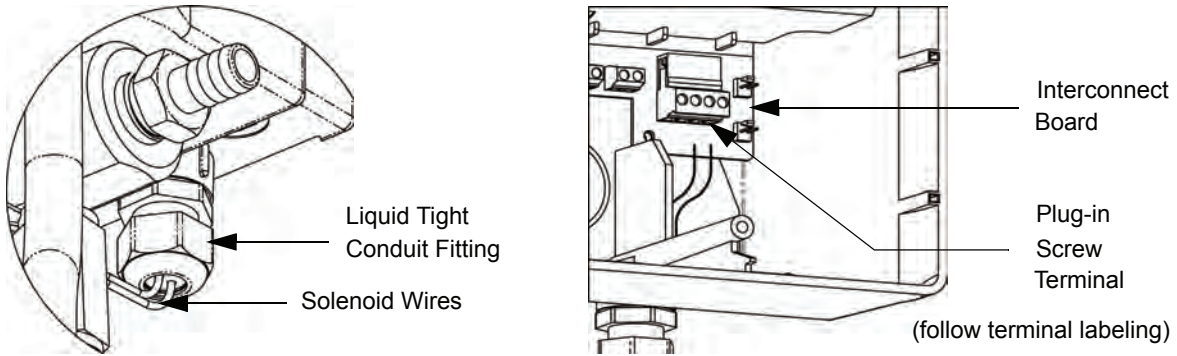

Figure 2-1 Liquid Tight Conduit Fitting and Harness Installation
3. Pass the solenoid wires through the right liquid tight conduit fitting (located in the bottom of the dispenser). Refer to *Figure 2-1 on page 4*.